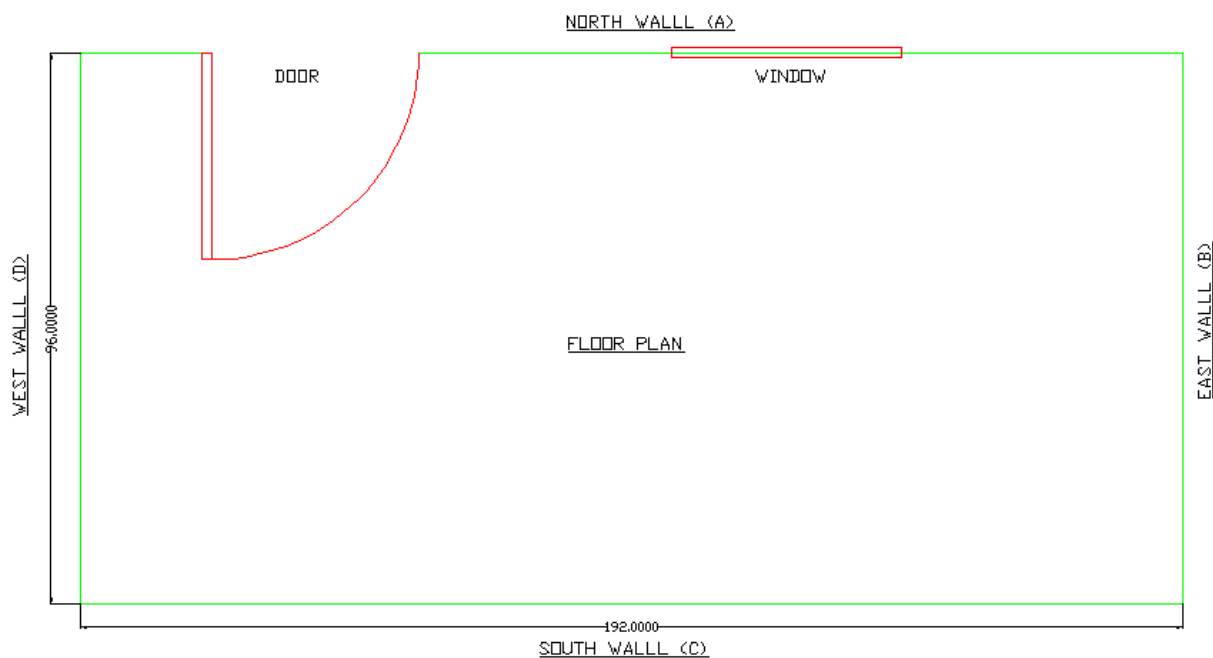

Fig 1
- **Floor Plan Drawing** is a top down view of the layout. Imagine slicing the building horizontally 4' above the ground and looking directly down (**Fig 1**)
- Begin with a simple floor plan diagram identifying each wall on the diagram: “North, South, East, West” (**Fig 1**). This can be a rough hand drawing in all cases.